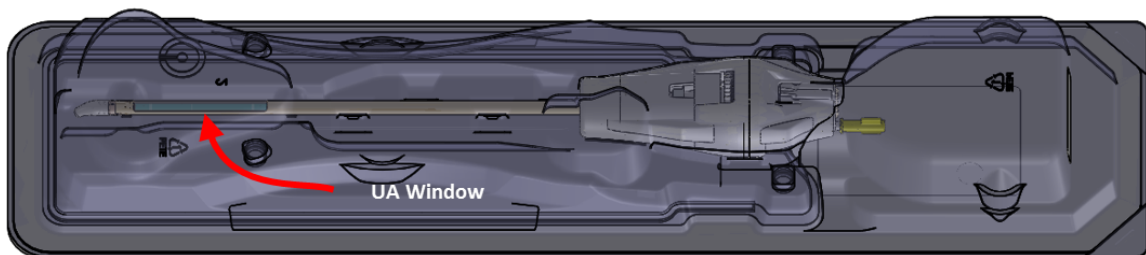

Figure 15: Examine the UA window for air bubbles
- d. When the purge cycle is complete, look through the package and carefully inspect the UA window for bubbles while raising and lowering the tip of the UA (Figure 15). There should be **no** bubbles of **any** size. If you see bubbles, turn on the pump and gently tap the package-end close to the UA window to dislodge them. If you still see bubbles, repeat this step until all bubbles have been eliminated.